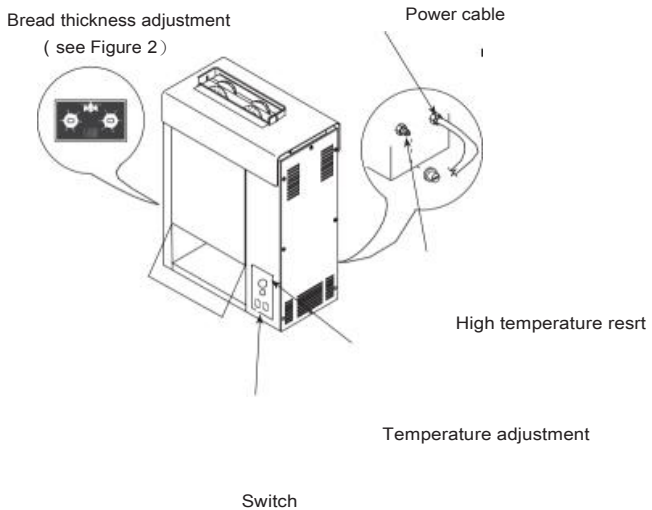

Figure1
- 2、 Turn on the switch (Figure 1). Turn the temperature knob to turn on the heating lamp, and toast the bread when the heating lamp goes out.
- 3、 Place the upper and lower layers in the groove (Figure 1) with the opposite sides.